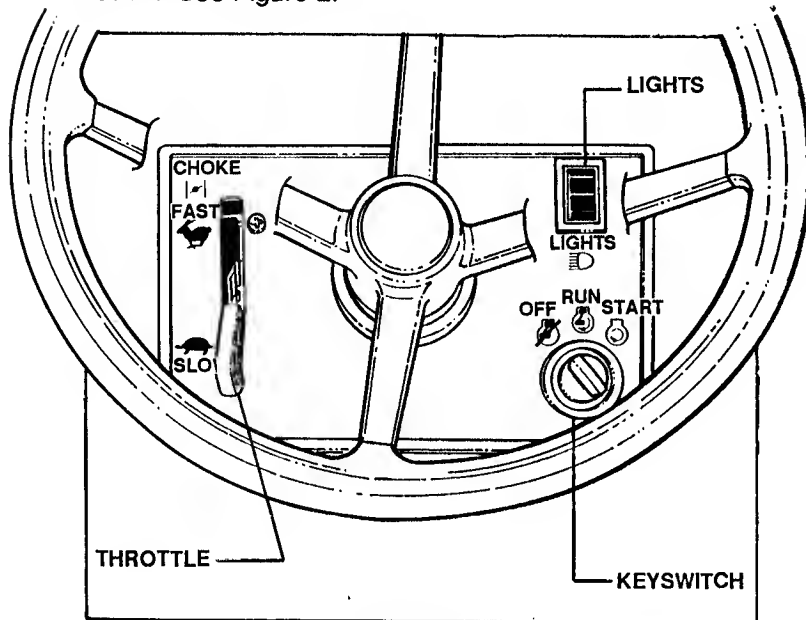

FIGURE 2
**ENGINE:** *STOP ENGINE* by turning the KEYSWITCH to "OFF". See Figure 2.
2. **CHOKE ENGINE** for cold starting by moving **THROTTLE CONTROL** to "CHOKE" position. (Little or no choking will be needed when restarting a warm engine). Refer to Figure 2.